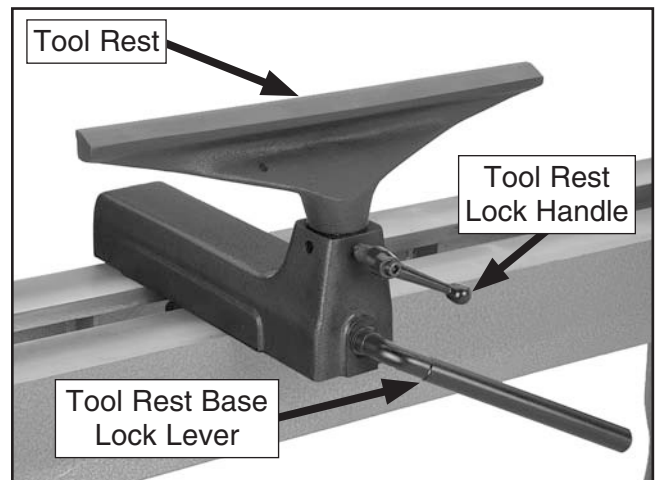

Figure 20. Tool rest controls.
1. Loosen the tool rest base lock handle and move the tool rest assembly to the desired position on the lathe bed, as shown in **Figure 20**.